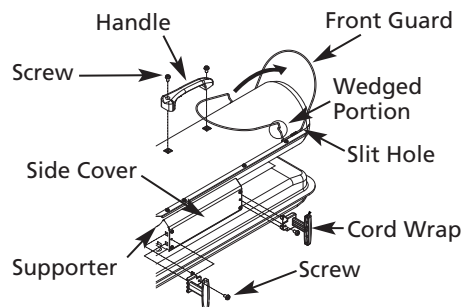

Figure 7 – Handle and Cord Wrap Installation 3VE48F and 3VE49F only
2. Align the holes in upper housing with two mounting holes on the handle as shown in Figure 7.
4. Insert cord wrap into the rectangle holes on the supporter and align the hole on the cord wrap with the mounting hole on the side cover as shown in Figure 7.